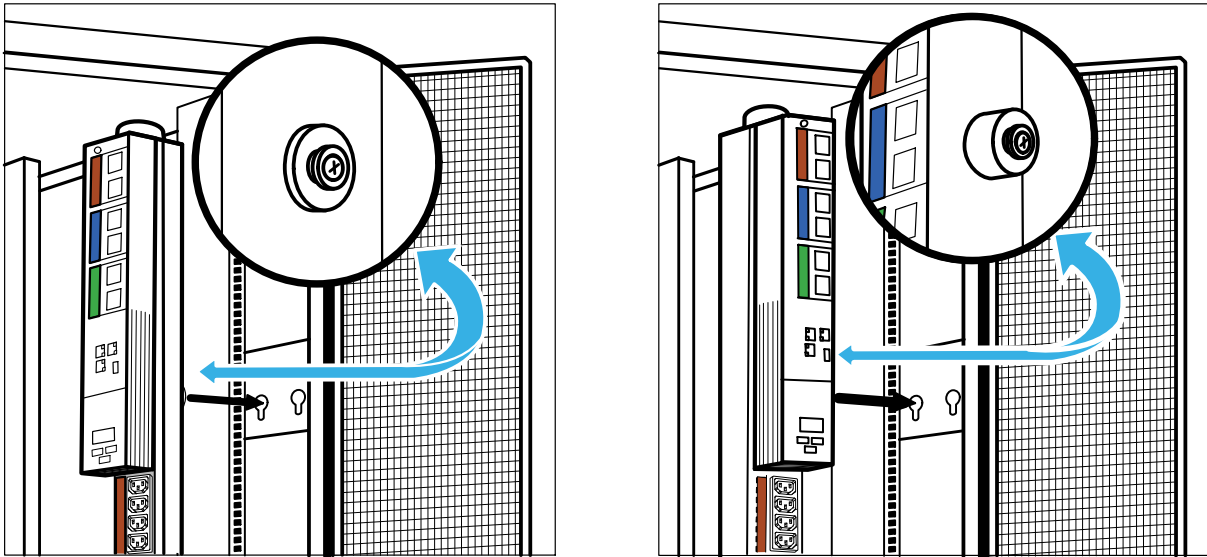

Figure 8. Aligning and Inserting the Standard or Deep Mounting Pegs (Top Mounting shown; Bottom Mounting not shown)
- 3 Align the mounting pegs with the keyholes in wall of the rPDU tray (see Figure 8).